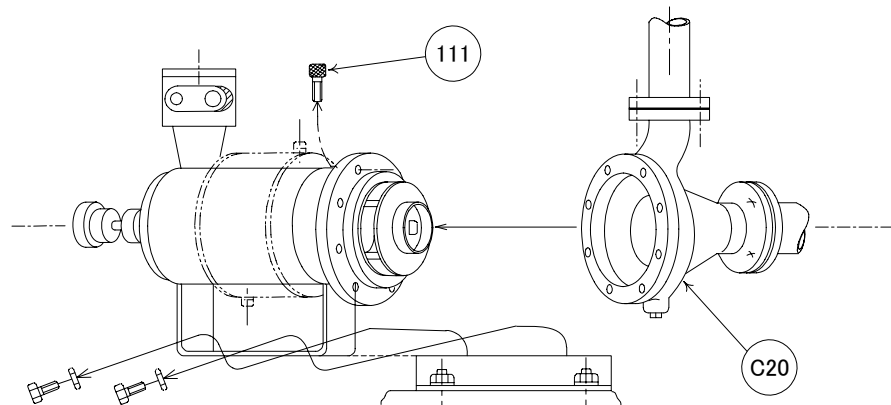

Fig.4-5 Removal of Stator Assembly Side
(5) Remove pump casing mounting bolts (111), and the pump can be pulled off to the rear side. The casing (C20) remains on the pump inlet/outlet piping. (Refer to Fig.4-5.)